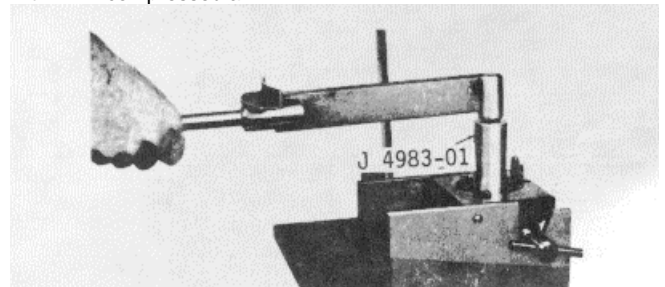

Fig. 40 Tightening Injector Nut With Torque Wrench
- (8) Use socket J 4983-01 and a torque wrench to tighten the injector nut to 75-85 ft-lbs (102-115 Nm) torque (Fig. 40).